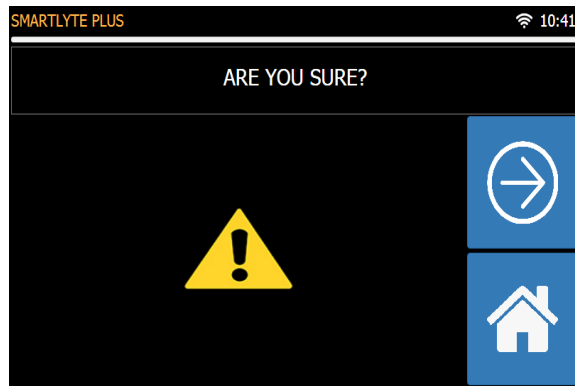

Figure 1-71 Shutdown first step
- Carefully unscrew the reference electrode from the reference electrode housing. (Figure 1-71).
- The shutdown kit transport housing is screwed into the reference housing. (Figure 1-71)